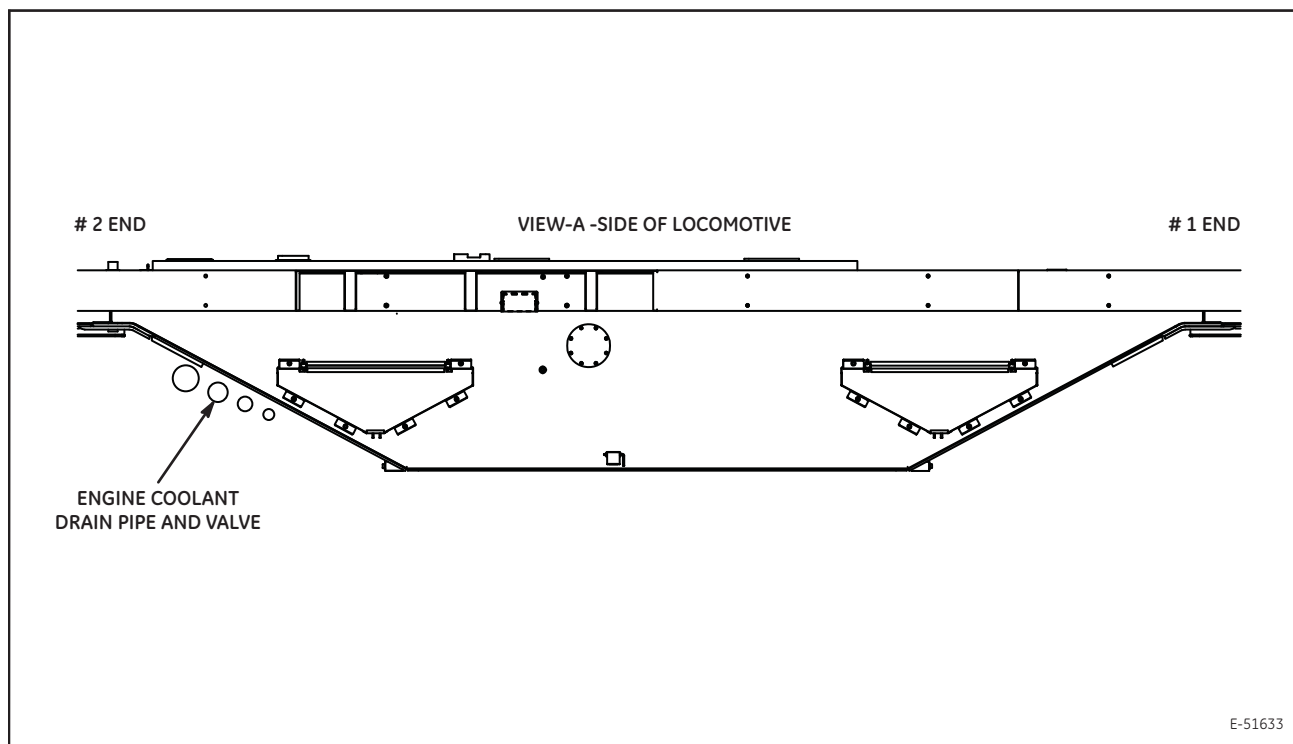

Figure 5. Location of Engine Cooling Drain Valve (PH37ACmi Unit Shown)
4. Open coolant drain valve on A side of locomotive, at the No. 2 end of fuel tank (Figure 5, PH37ACmi unit shown).
3. Attach water supply line to the drain pipe (Figure 5), open drain valve, and begin the fill procedure.